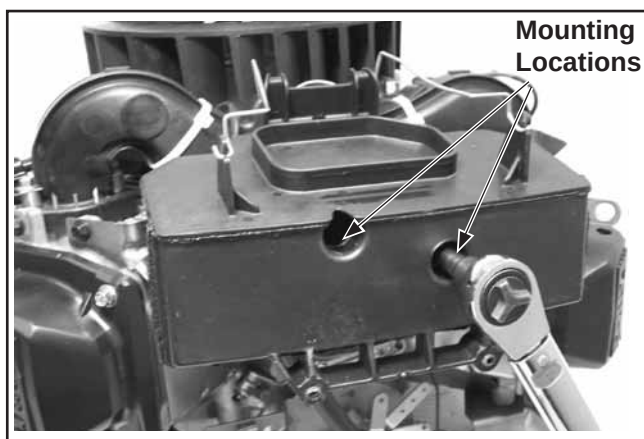

Figure 10-70. Installing Air Cleaner Base and Gasket.
4. Install a new air cleaner base gasket and the air cleaner base onto the mounting studs. Torque the two hex flange nuts to **6.2-7.3 N·m (55-65 in. lb.)**. See Figure 10-70.